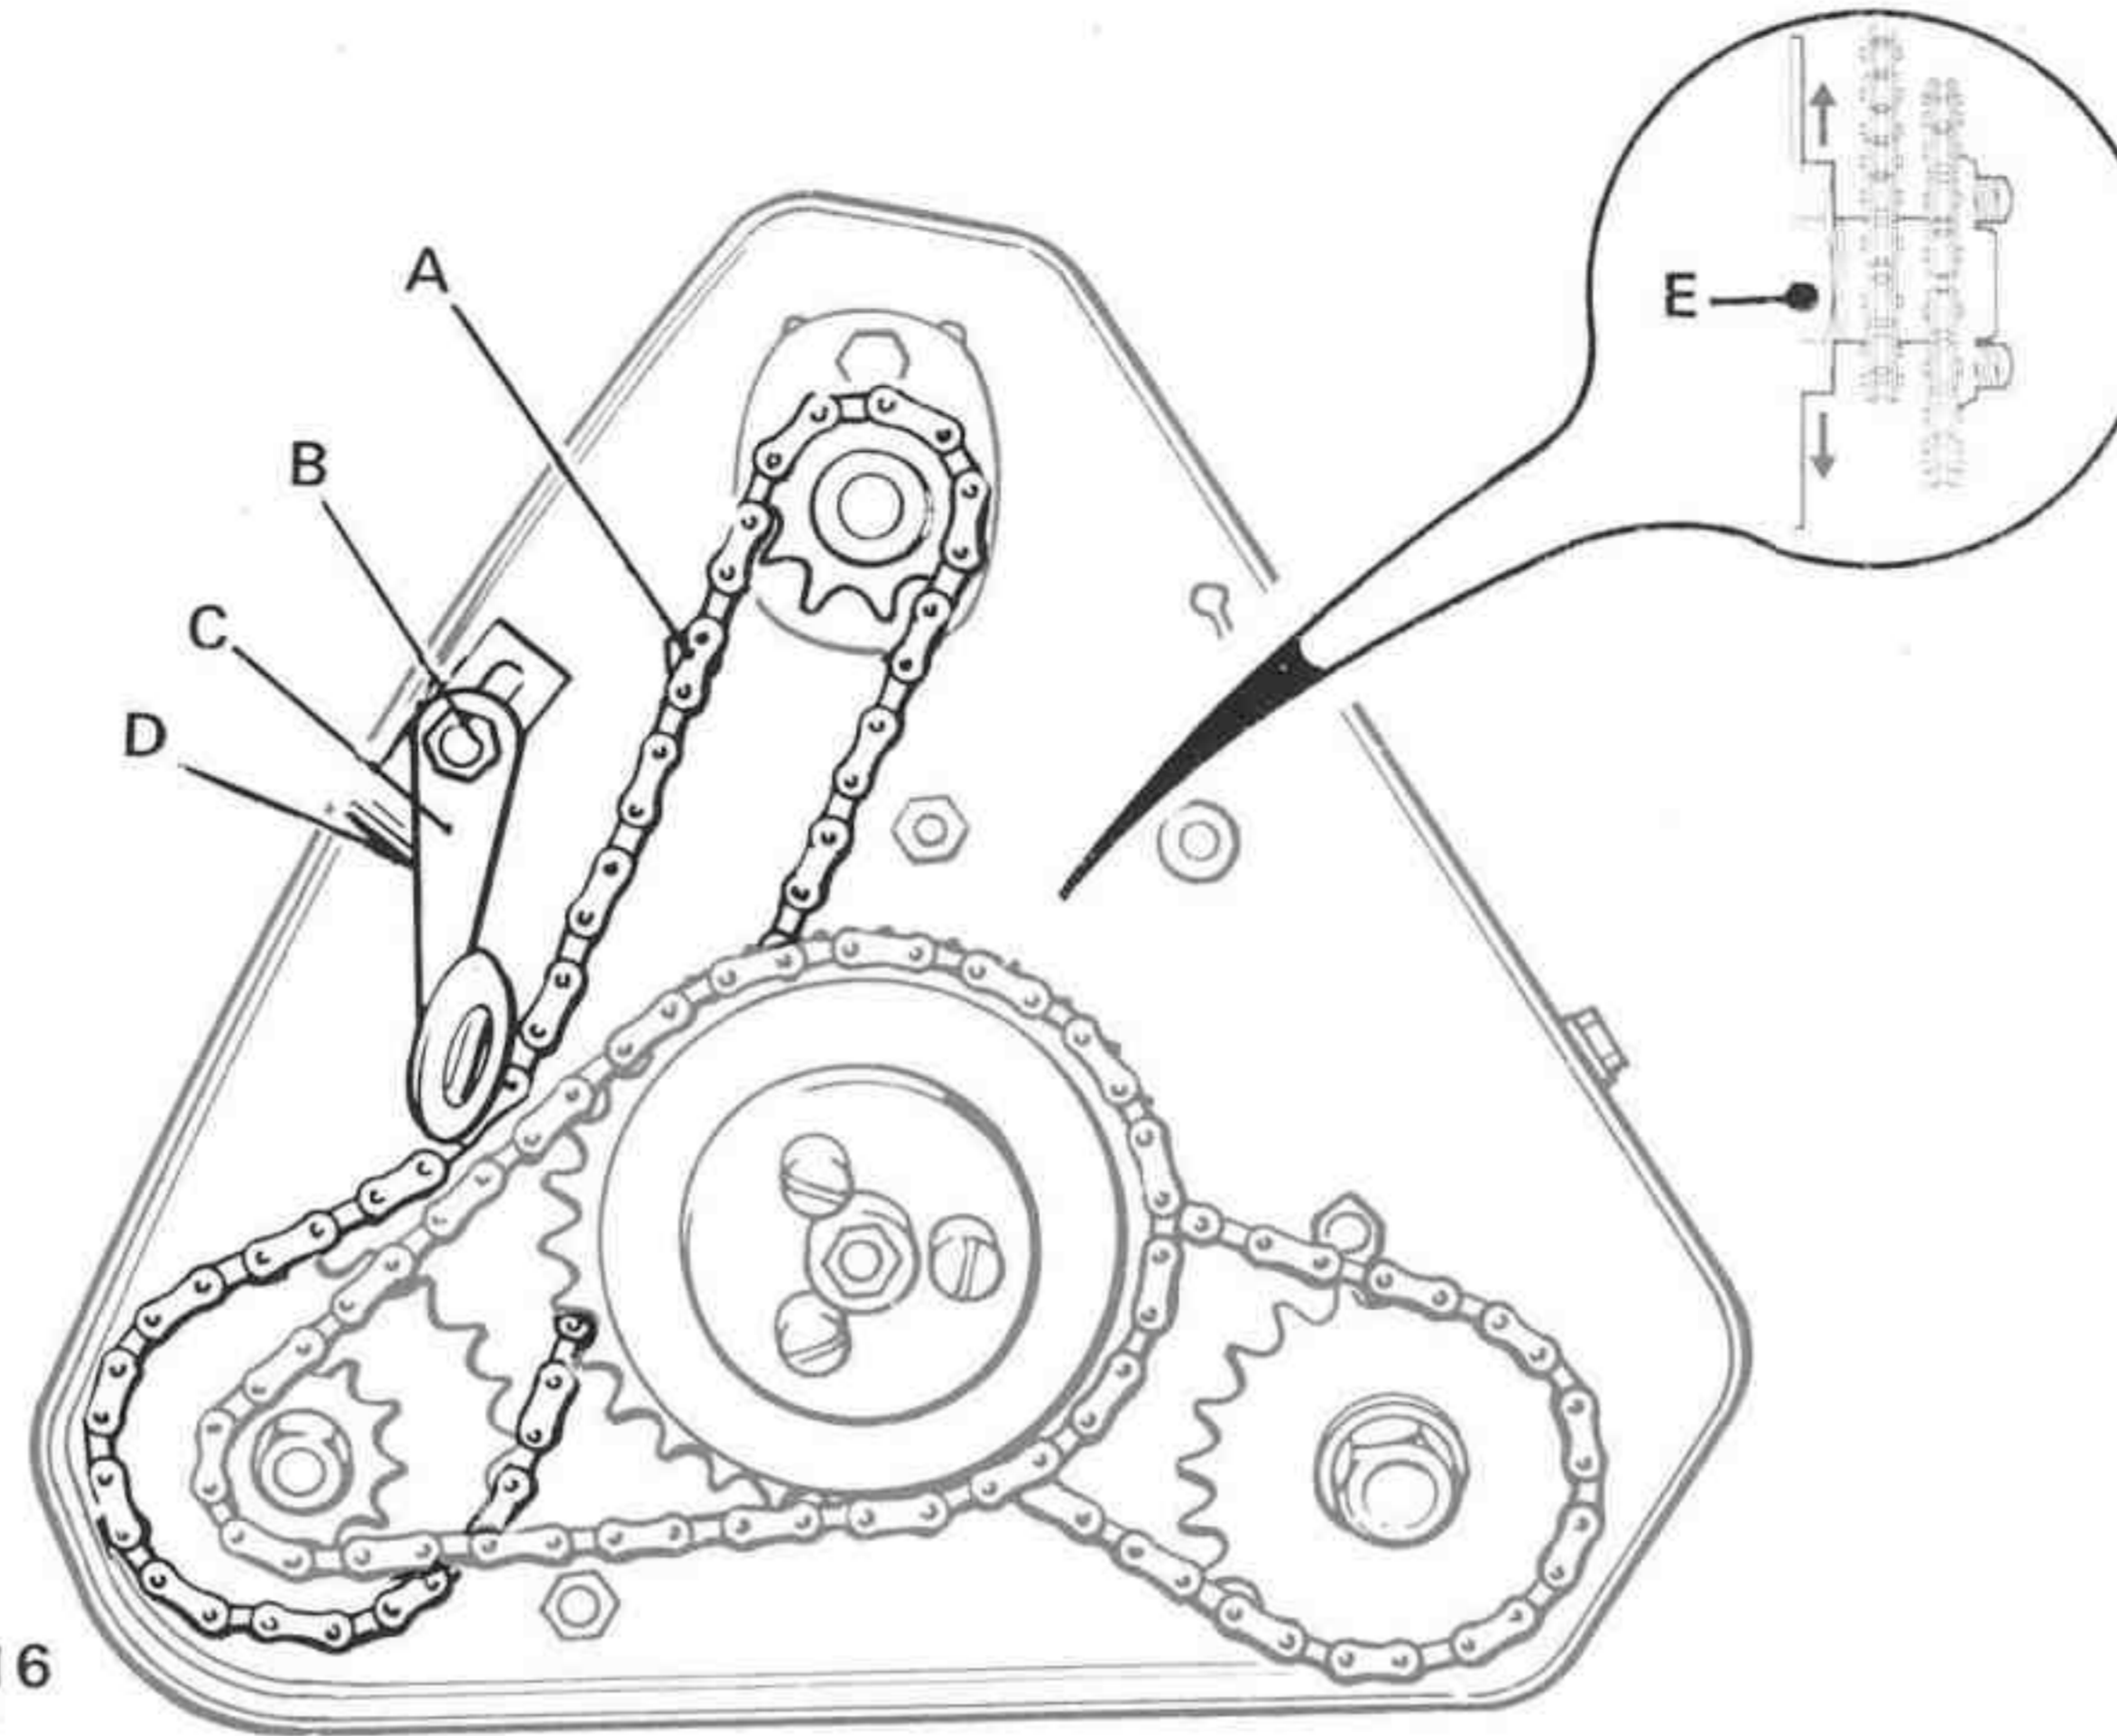

Fig. 16
3 Tension the primary chain (A Fig.16) by loosening bolt (B) and moving tensioner (C) until there is 1/2" (12 mm) of slack on the rear run of the chain. Slide the tensioner stay (D) up to hold the tensioner in position and lock bolt (B) firmly.